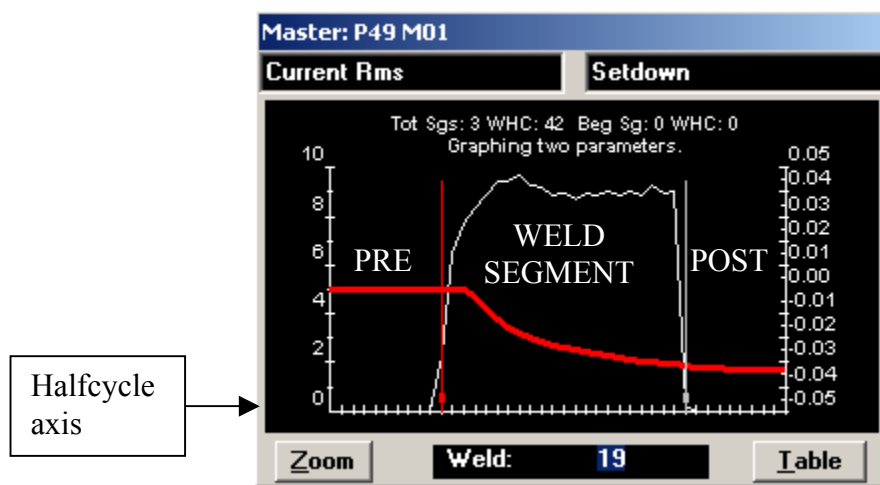

Figure 6-50 Segment Size sets the maximum weld segment size
- **Post Size (Default Setting: 10) (see figure 6-50)**
- **Segment Size (Default Setting: 620) (see figure 6-50)**